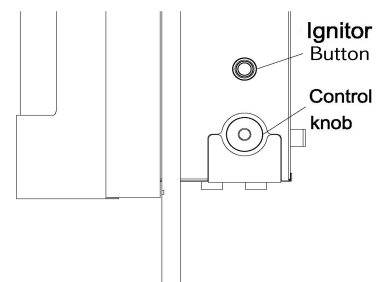

Figure 17 – Control Knob in the OFF Position
4. Turn control knob clockwise  to the OFF position. (See Figure 17).
5. Wait five (5) minutes to clear out any gas. Then smell for gas, including near the floor. If you smell gas, STOP! Follow "B" in the safety information on the side of the heater. If you don't smell gas, go to the next step.
6. Turn control knob counterclockwise  to the PILOT position. Press in control knob for five (5) seconds.